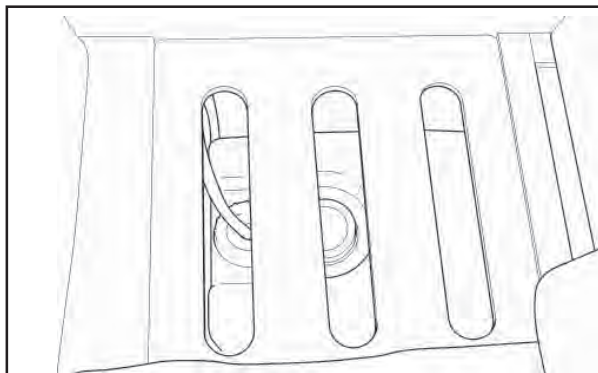

Fig. 1 Remove offside front bunk cushion and slatted board to access tank from inside the caravan.
4. Insert plug into wall socket and close lid to lock plug in place (see fig. 1).